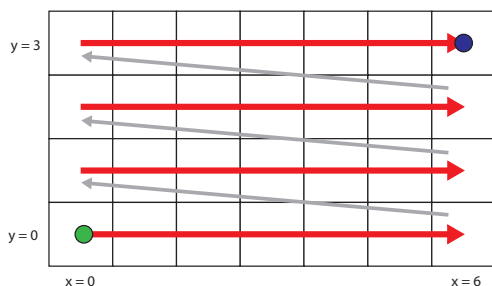

Figure 5.3: The ‘standard’ mode.
The most basic mode is the ‘standard’ mode. Fig. 5.3 shows how the standard mode measures the map $z(x, y)$. In this example, we have chosen for $x = \text{np.linspace}(0, 6, 7)$ and $y = \text{np.linspace}(0, 3, 4)$. We start at the green dot and measure $z(0, 0)$. Then, we follow the red line, which denotes a *sweep* being performed. Hence, we measure $z(1, 0), z(2, 0), \dots, z(6, 0)$. Then, we *move* x back to its first value (0) and *move* y to its second value (1). This is denoted by the grey arrow. Now, we sweep x for $y = 1$, move, sweep, etc., until we end up at the blue dot.